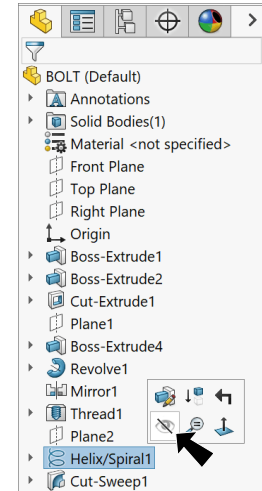

Fig. 57
Step 1. **Hide Helix/Spiral** . To hide, click the **Helix/Spiral1**  in the Feature Manager and **Hide**  on the context toolbar, **Fig. 57**.